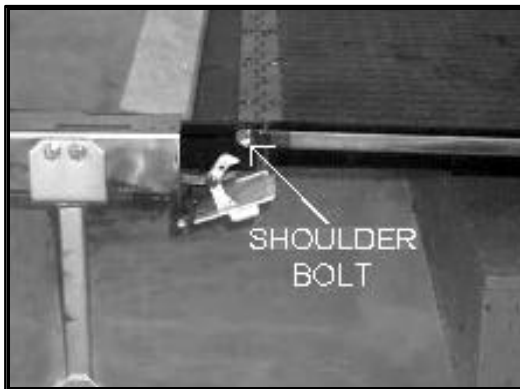

FIGURE 4-12: SHOULDER BOLT LOCATION
- c. Refer to Figure 4-12. Remove two shoulder bolts from strap located on each side of ramp.